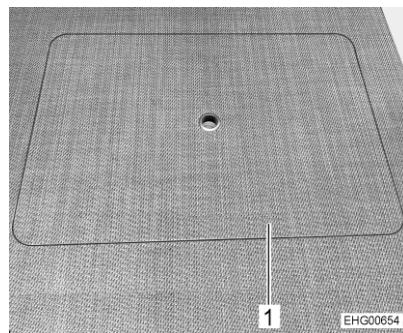

Fig. 26 Service cover in double floor
- Open one of the service covers (Fig. 26,1) in the living area.